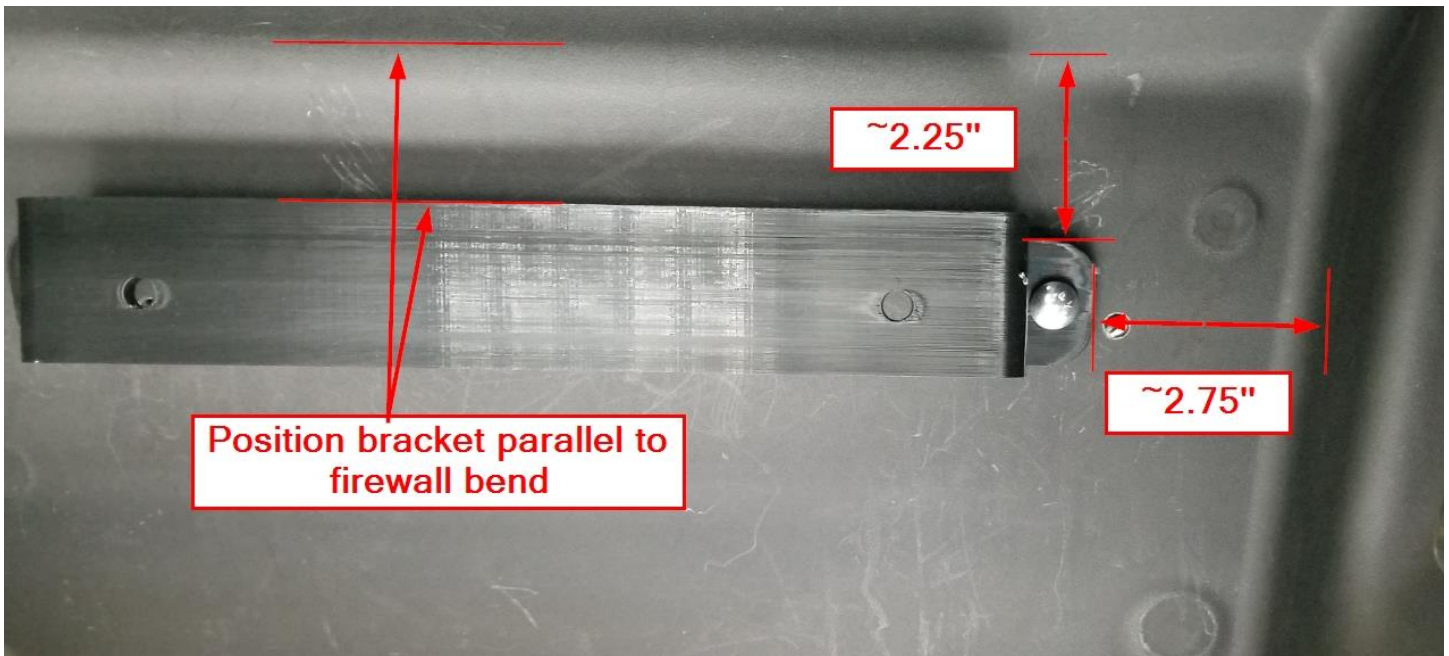

Figure 8
- f. Position the Main Heater Bracket as shown in Figure 8. The bracket should be parallel to the bend in the firewall, shown in Figure 8. Position the passenger side of the bracket approximately 2.75" from the right hand side firewall feature. Position the bracket approximately 2.25" from the top firewall bend. Mark the hole centers and drill using a 1/4" drill bit.